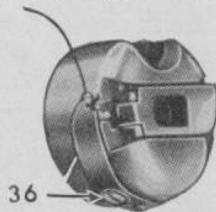

FIG. 17
as this adjustment is more delicate. In case you consider it necessary to adjust the lower tension, remove bobbin case from the machine. Turn bobbin case spring screw (36), fig. 17, to the right to tighten lower thread tension. If the tension is to be lessened, turn this screw to the left.
*Note:* Do not turn bobbin case spring screw (36) more than about  $\frac{1}{4}$  turn at a time in either direction. Then try and check for results.